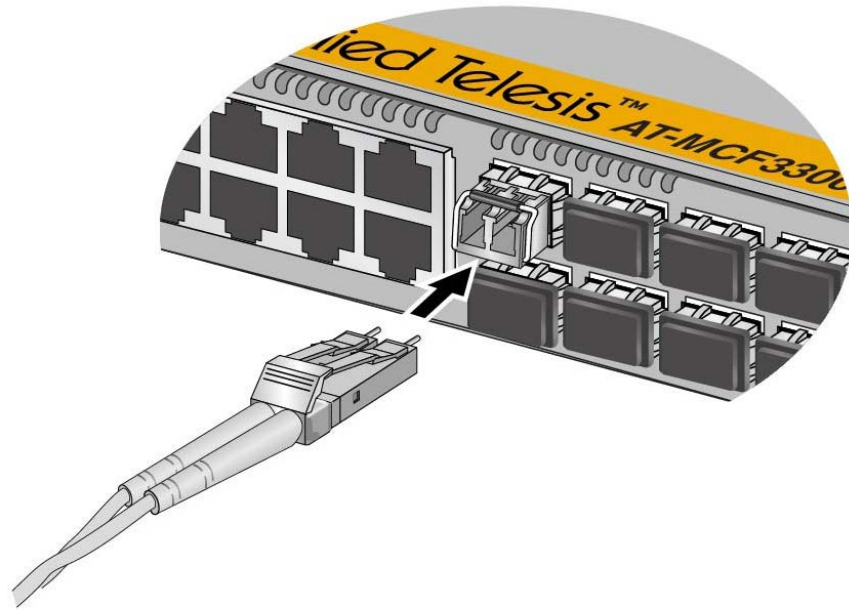

Figure 49. Connecting a Fiber Optic Cable to a Transceiver
9. Connect the fiber optic cable to the transceiver, as shown in Figure 49.